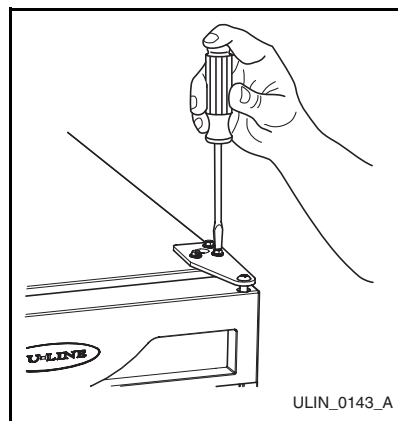

Figure 38
4. Remove top hinge from cabinet (three screws) (**Figure 38**). Hold door to keep it from falling.